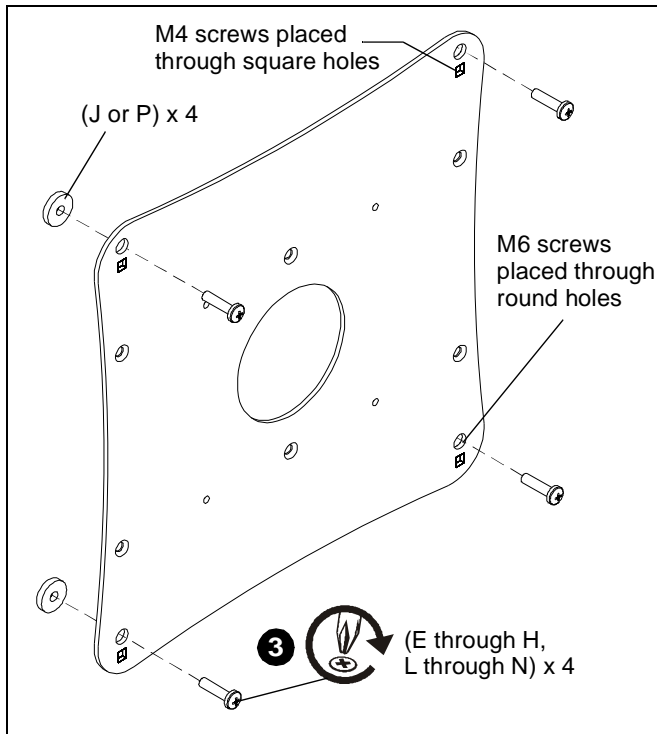

Figure 6
- Use four nylon spacers (J or P) and four Phillips cap head screws (E through H, L through N) to attach interface bracket (A) to the display back. (See Figure 6)